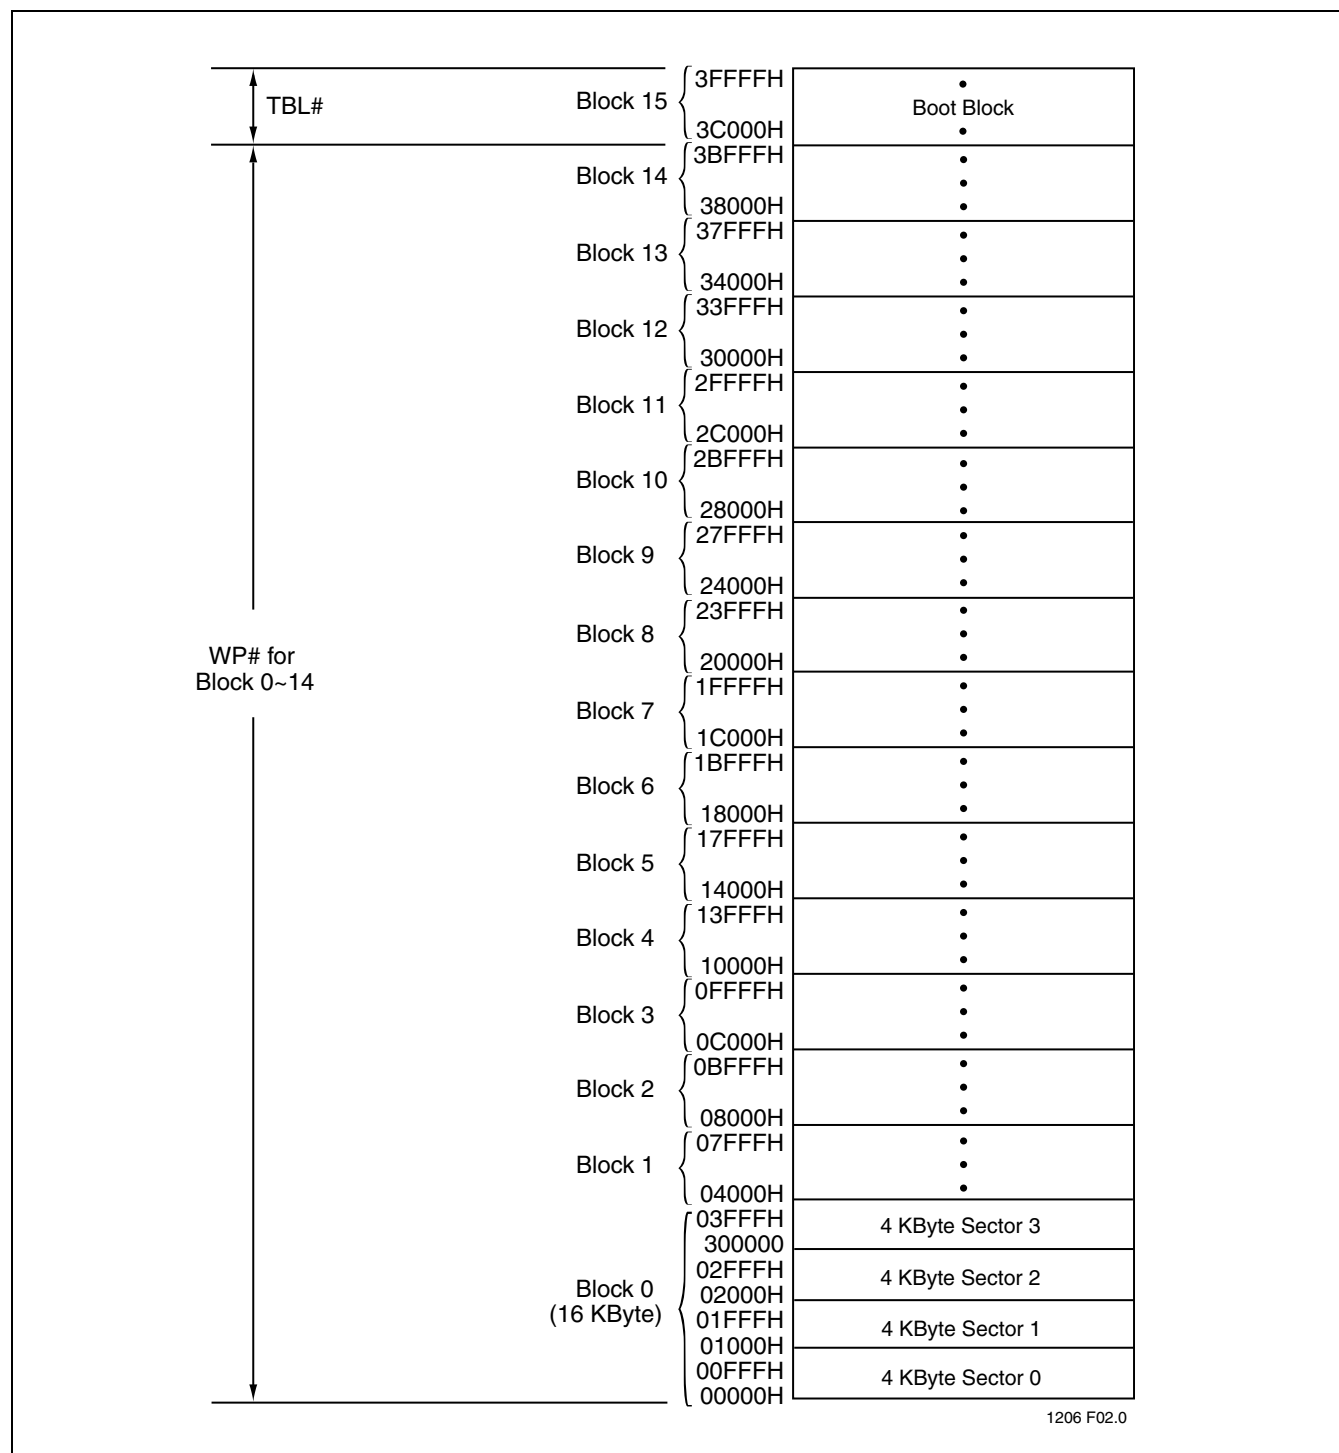

FIGURE 4: Device Memory Map
The SST49LF020A flash memory devices can operate in two distinct interface modes: the LPC mode and the Parallel Programming (PP) mode. The mode pin is used to set the interface mode selection. If the mode pin is set to logic High, the device is in PP mode. If the mode pin is set Low, the device is in the LPC mode. The mode selection pin must be configured prior to device operation. The mode pin is internally pulled down if the pin is left unconnected. In LPC mode, the device is configured to its host using standard LPC interface protocol. Communication between Host and the SST49LF020A occurs via the 4-bit I/O communication signals, LAD [3:0] and LFRAME#. In PP mode, the device is programmed via an 11-bit address and an 8-bit data I/O parallel signals. The address inputs are multiplexed in row and column selected by control signal R/C# pin. The row addresses are mapped to the lower internal addresses (A_{10-0}), and the column addresses are mapped to the higher internal addresses (A_{MS-11}). See Figure 4, the Device Memory Map, for address assignments.